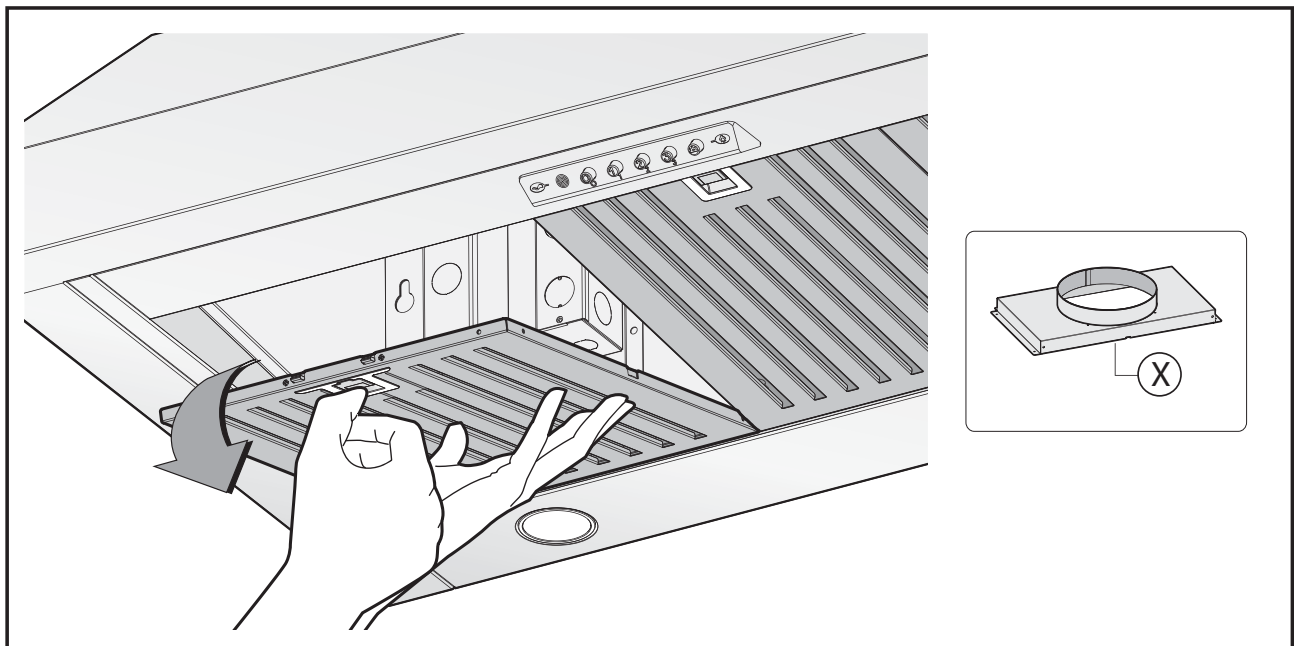

Fig.1
- Remove the anti-grease filter/s (**Fig.1**).
- The air evacuation flange is supplied with the circular shape **X** (**Fig.1**).
Fig.1: Take the circular shape **X** and fasten it to the hood using the 7 screws. To convert this model from the suction to the filtering version, it is not necessary to use the circular shape **X**.